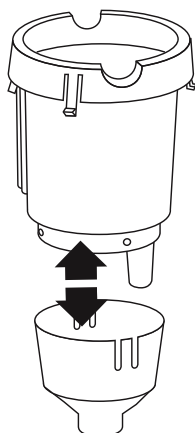
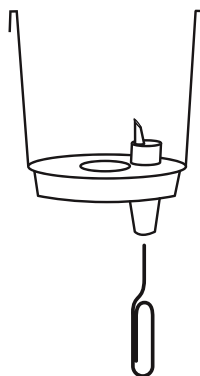

figure 27
figure 28
2. Cleaning the Funnel – The Funnel can be removed from the K-Cup Holder by pulling on it until it pops off (see figure 27). The Funnel is top-rack dishwasher safe. To replace it, just snap it back onto the K-Cup Holder Assembly.
3. Cleaning the Exit Needle – The Exit Needle is located on the inside bottom of the K-Cup Holder Assembly. Should a clog arise due to coffee grinds, it can be cleaned using a paper clip or similar tool. Remove K-Cup Holder (as shown in figure 27). Insert the paper clip (see figure 28) to loosen the clog and push it out.